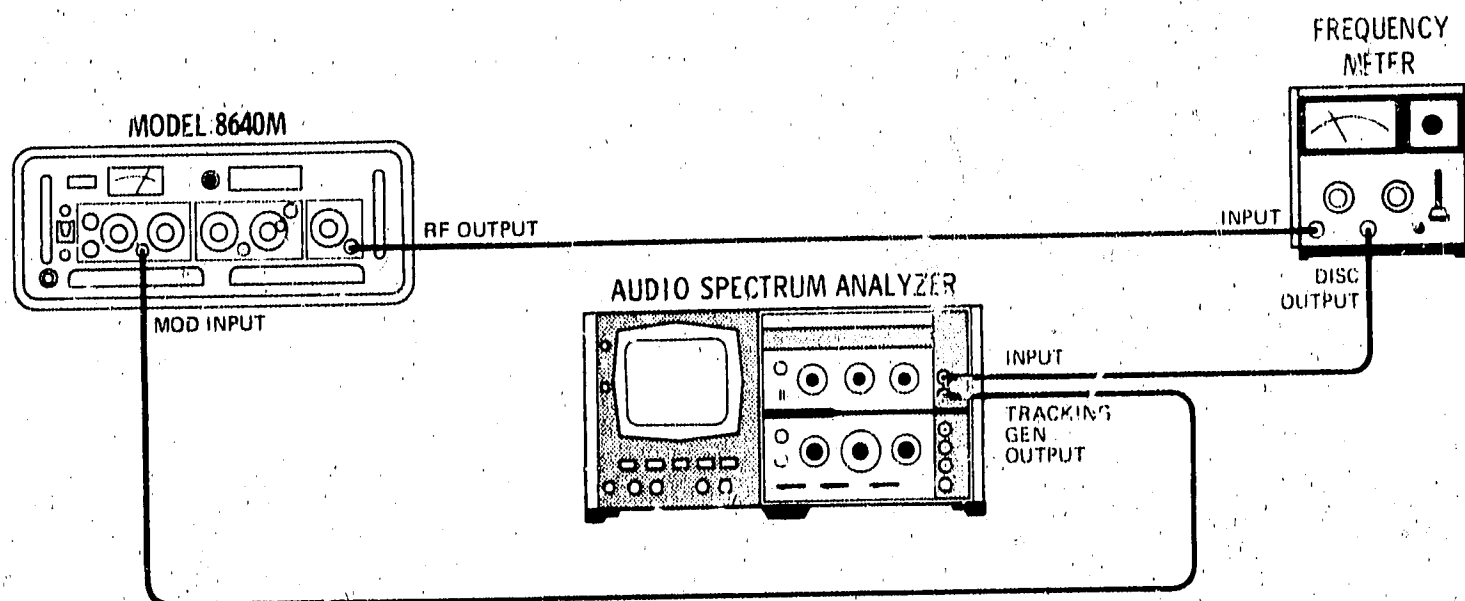

Figure 4-9. FM Bandwidth Test Setup
1. Connect equipment as shown in Figure 4-9 after setting Signal Generator's controls as follows: